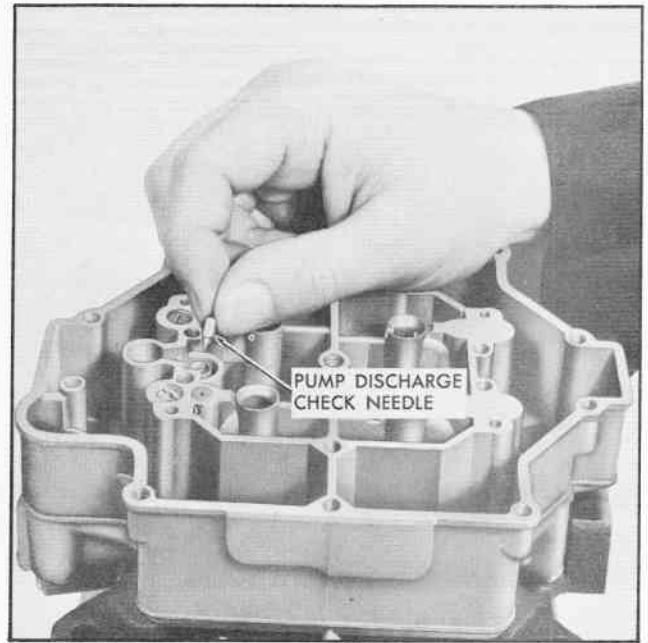

Fig. 23 Installing Pump Discharge Check Needle
8. Install brass pump discharge check needle (Fig. 23). Be sure needle is installed point down.